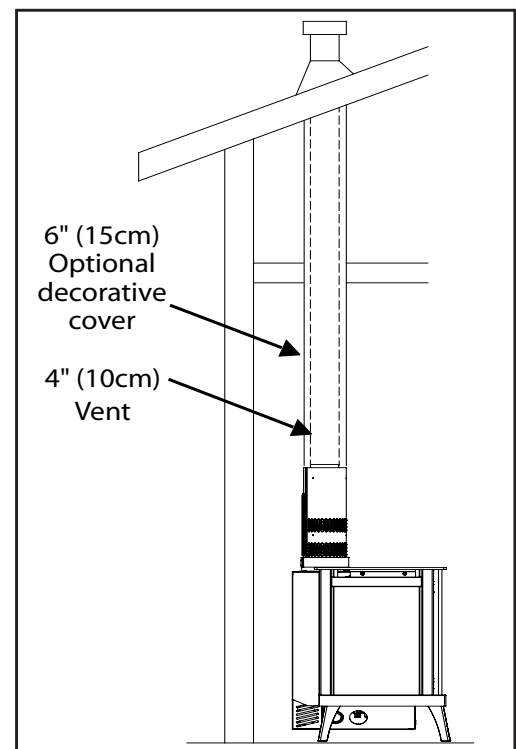

Figure 42: B-Vent Setup
**Note:** Please refer to the chimney manufacturer's installation instructions prior to commencing the installation. This unit may be vented to an existing masonry chimney, or where no masonry chimney is available, an approved "B-vent" chimney, or any other approved constructed chimney/vent system (see Figure 42). In either case, the fireplace must be connected to the chimney/vent using a 4" (10 cm) single wall flexible venting.